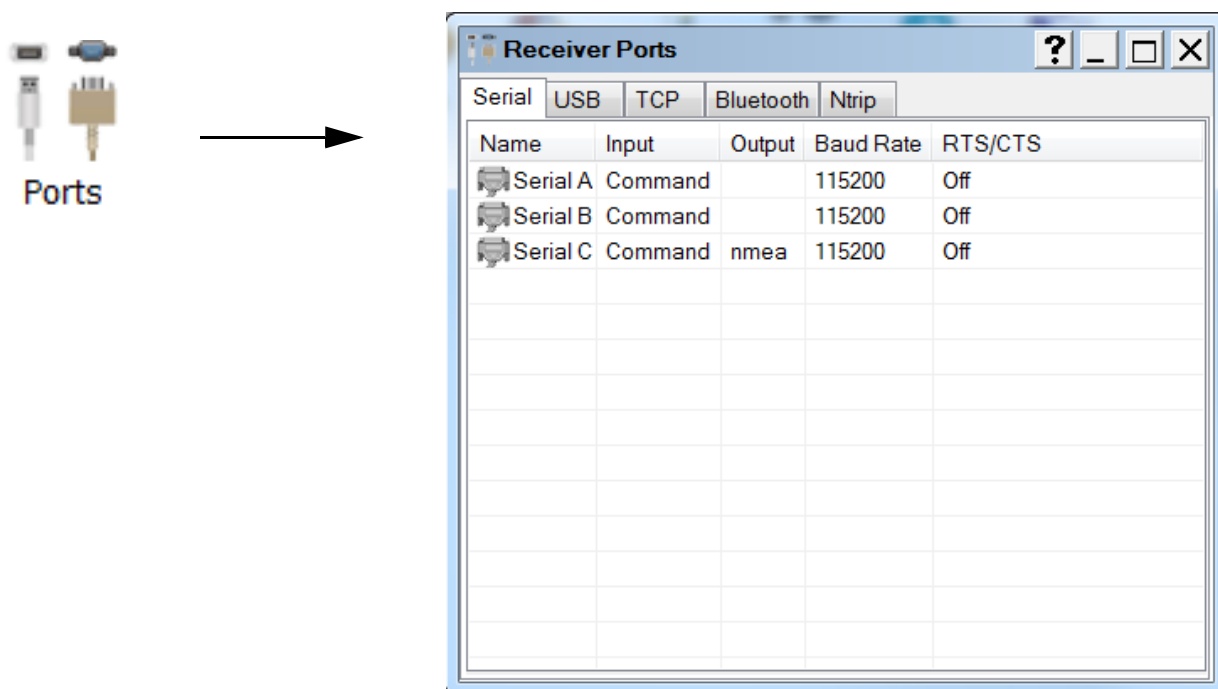

Figure 42: Receiver Settings
1. In the **Receiver Settings** screen, click **Ports** (Figure 42). The **Receiver Ports** screen appears.
2. Double-click the appropriate Serial Port name (Figure 42). The **Settings** screen for that port appears.